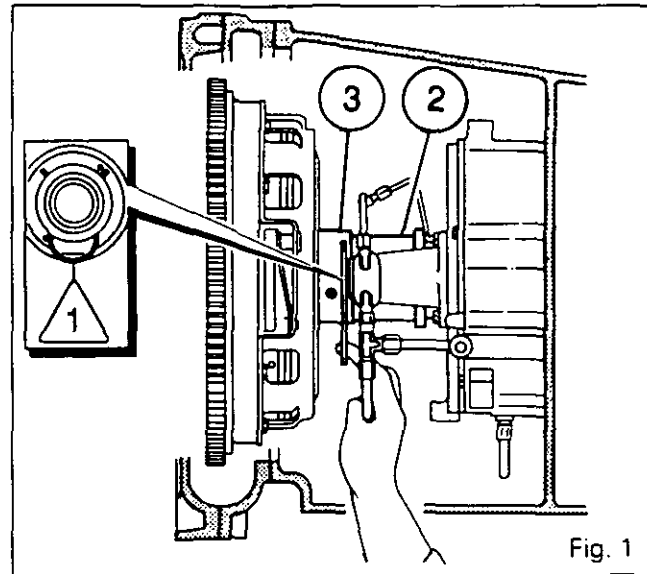

Fig. 1
4. **Remove the pin (1) connecting the release bearing carrier (2) and the cover (3) (Fig. 1).**
2. Disconnect and plug the following (on LH side of gearbox) (Fig. 1).
- . the PTO clutch lubricating pipe (1) (at both ends)
- . the gearbox lubricating hose (2)
- . the return hose (3)
- . the hydraulic hose (4) supplying the clutch slave cylinder